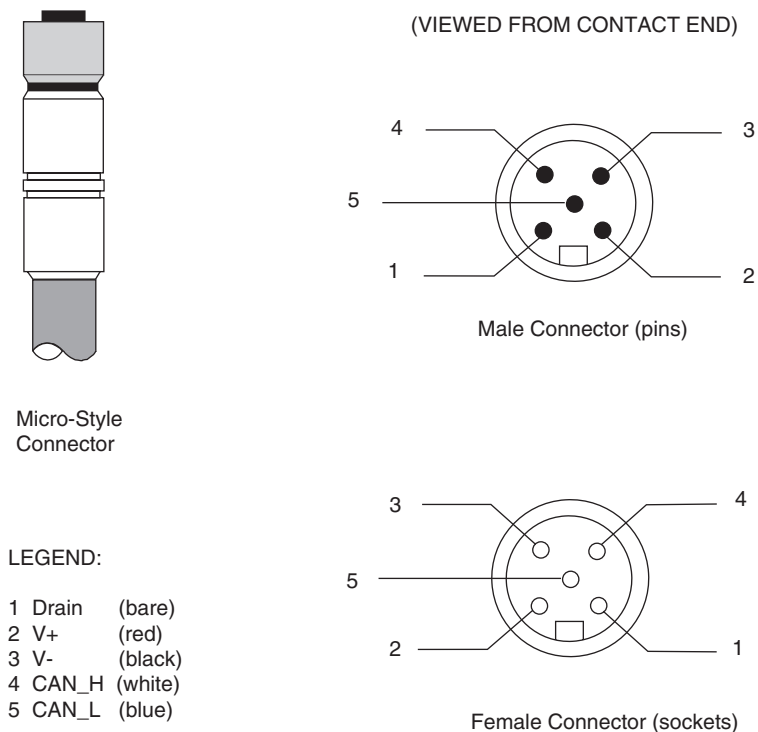

Figure 7-7. Micro-Style Connector Pinouts for DeviceNet
- Female connector for the robot tower; Micro-style 12 mm thread DIN female connector (see Figure 7-7 on page 145)